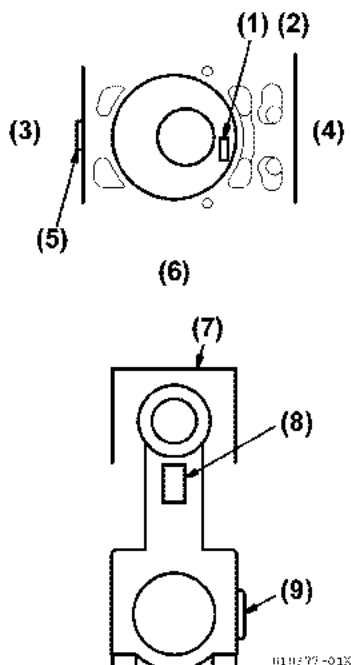
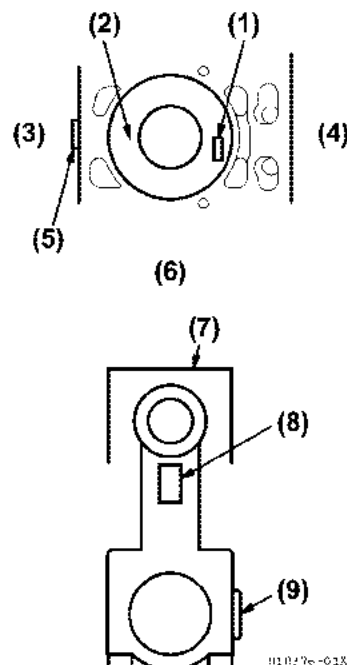

Figure 5-140
Figure 5-141
- After inserting the piston, make sure the ID marks (size mark and model mark) on the piston top are in the correct position, looking from the top of the piston (Figure 5-140) and (Figure 5-141).